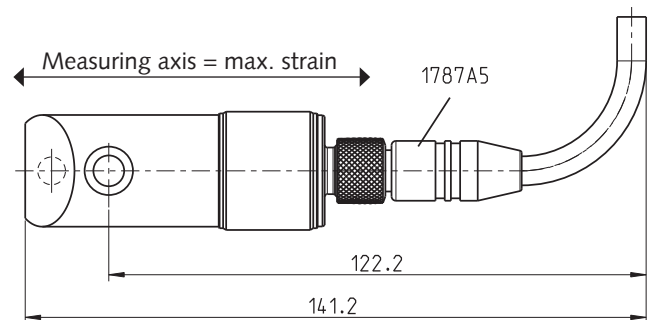

Fig. 4: Aligning sensor to the maximum strain axis
- Align the sensor relative to the structure of the machine. Position the measuring axis to record the maximum strain curve (Fig. 4).